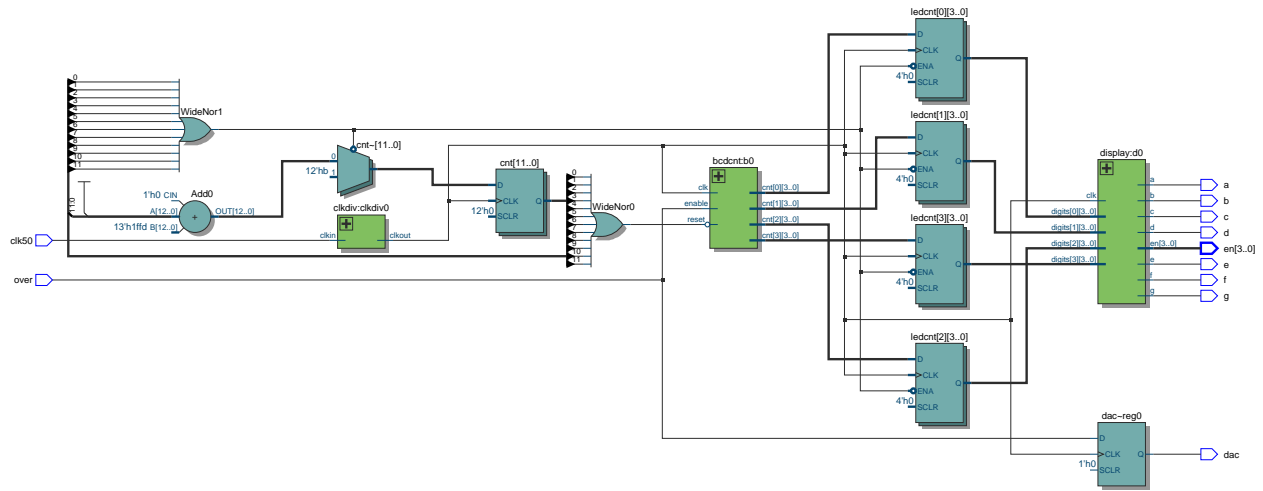

Figure 1: Synthesis results generated by Quartus.
- The schematic generated from Tools > RTL Netlist such as that in Figure 1.